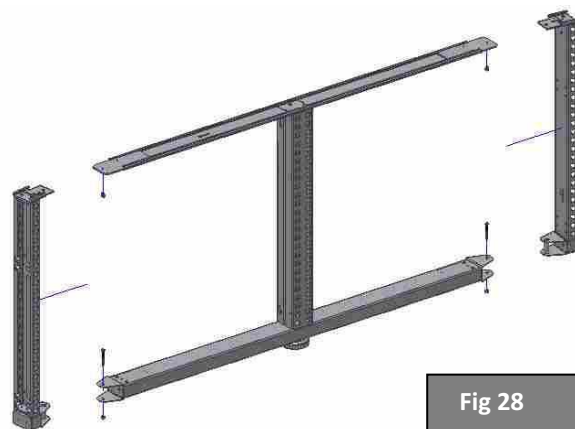

Fig 28
STEP 5 – Assemble the **740 single end bar** to the **"I" frame**, i.e. join the two parts of the **generator** (Fig. 28)